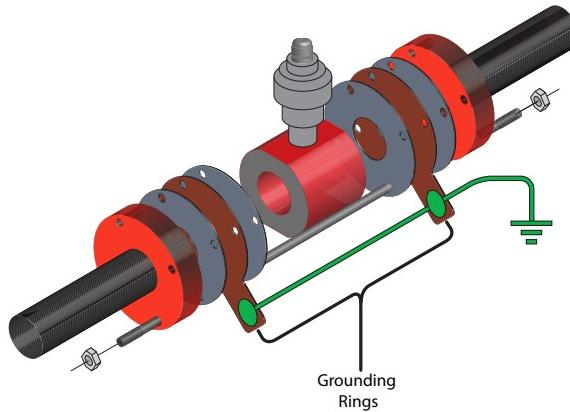

Figure 15: Grounding ring installation
4. Use grounding rings when metal pipes are used in conjunction with this meter. See *Figure 15*.